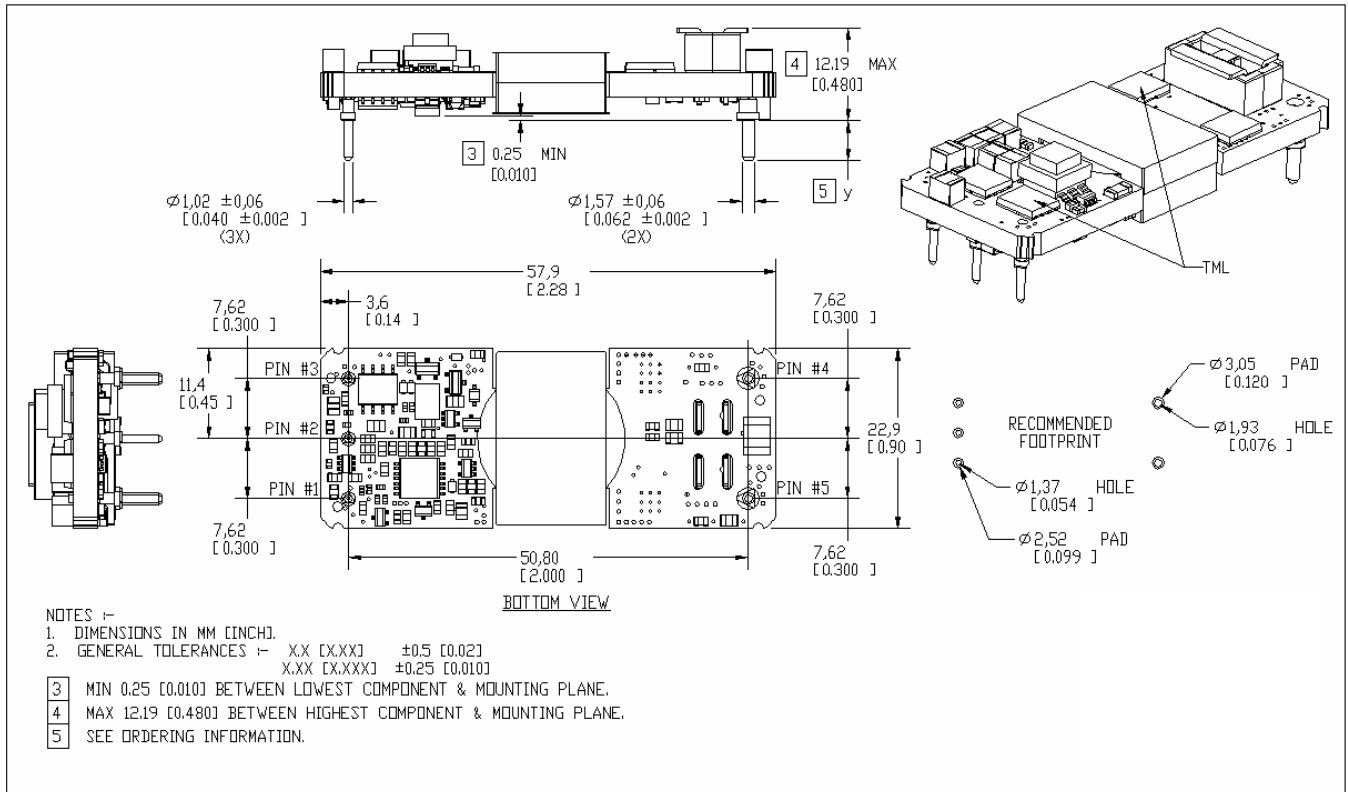

Figure 1
- (1) $V_{in} = 48V_{dc}$, $T_a = 25\text{ °C}$, Airflow = 200 LFM for all data unless otherwise noted.
- (2) Output Ripple Voltage and noise is specified when measured with no external capacitance.
- (3) Transient response is specified without a capacitor at the output of the converter.
- (4) Thermal shutdown is monitored at the Thermal Measurement Location (TML). See 'Mechanical Information' on page 3 for TML location.
- (5) See 'Safety Considerations' shown in Figure 1.
- (6) De-rating curves are conducted in a controlled environment. End application testing is required to ensure the Thermal Measurement Location temperature is below the maximum specified. Recommended airflow direction is from pin 1 to pin 3, or 3 to 1 (transverse to the unit)
- (7) Current share accuracy is optimized when the source and load impedance presented to each converter is equal.
- (8) Input Reflected Ripple is specified when measured with a 12uH source inductance.